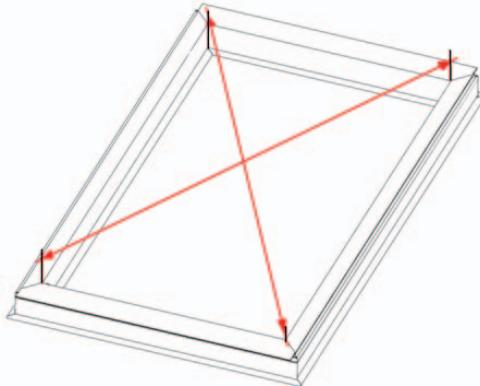

Fig. 81 *Then check the diagonals and realign, if necessary*
3. Check the diagonals and realign, if necessary (Fig. 81)